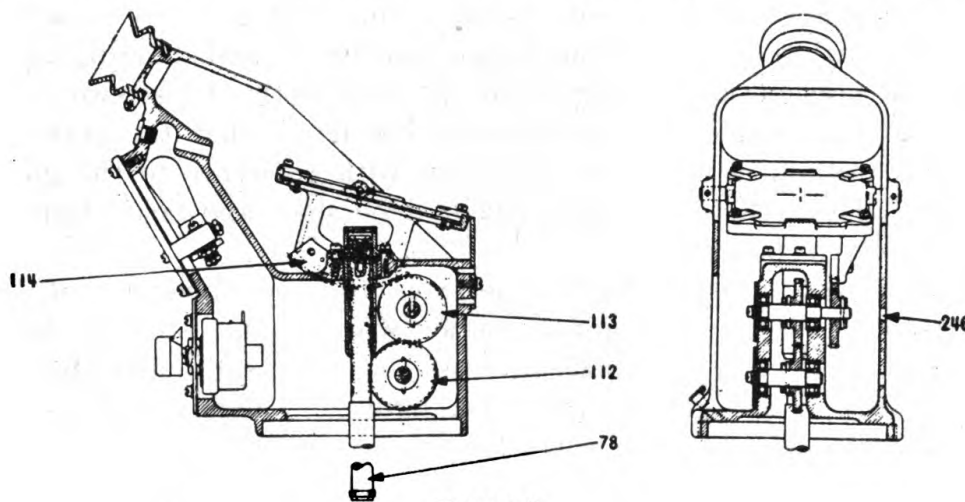

FIGURE 6.
a. Referring to figure 6, and to the actual mechanisms, reassemble the unit in such a manner that when the scribe marks on the mirror gear sector 114 and the idler gear 113 are in line as observed through aperture 246, the mirror is at a position  $15^\circ$  below horizontal. This may also be accomplished with level-protractor or gunner's quadrant, or by use of pointer provided\* on the open sight bracket. This pointer indicates accurately the  $15^\circ$  position of the mirror by coincidence between the pointer and the finished top surface of the mirror mounting bracket.